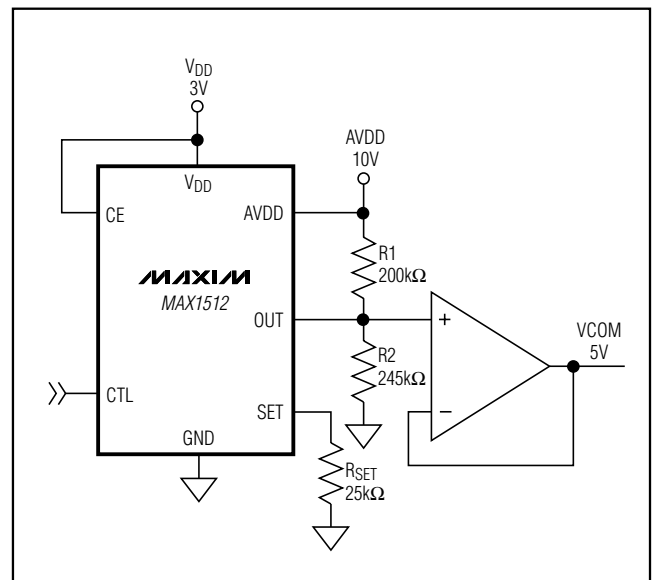
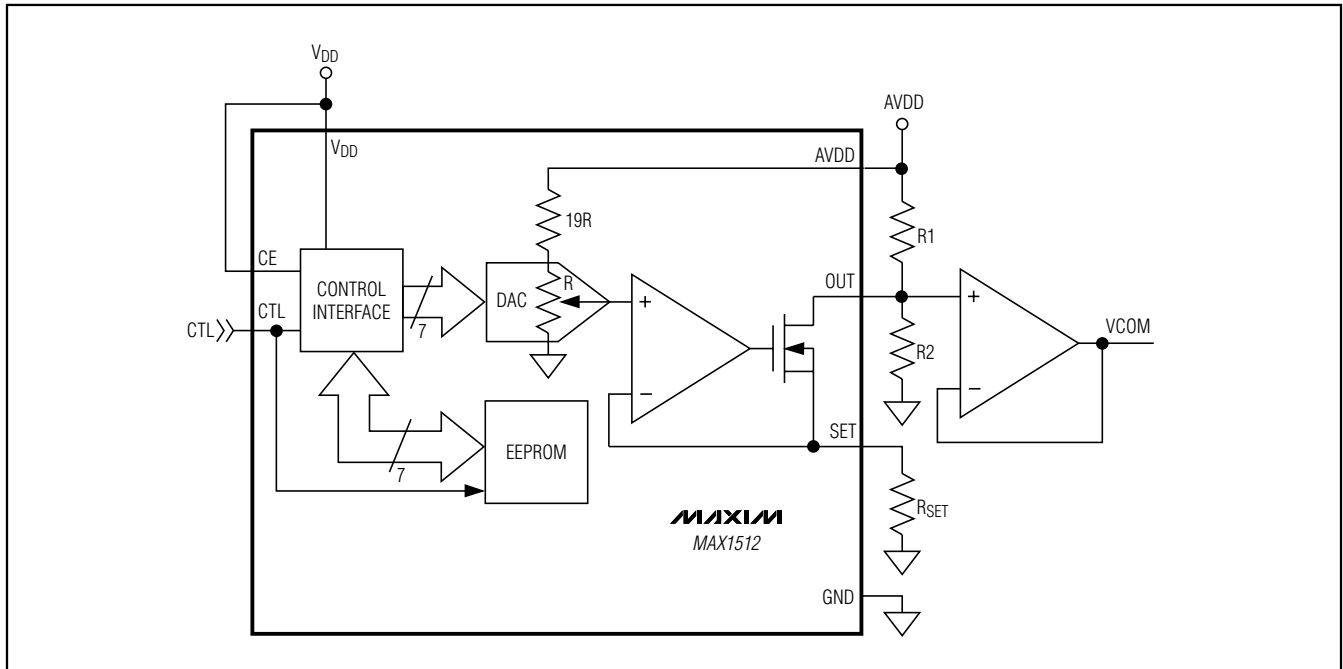

Figure 1. Standard Application Circuit
Figure 2. Simplified Functional Diagram
(Circuit of Figure 1, $V_{DD} = 3V$, $V_{AVDD} = 10V$, $V_{OUT} = 5V$, $R_{SET} = 30.1k\Omega$, $T_A = 0^{\circ}C$ to $+85^{\circ}C$, unless otherwise noted. Typical values are at $T_A = +25^{\circ}C$.) (Note 1)
(Circuit of Figure 1, $V_{DD} = 3V$, $V_{AVDD} = 10V$, $V_{OUT} = 5V$, $R_{SET} = 24.9k\Omega$, $T_A = +25^\circ C$, DAC half scale, unless otherwise noted.)
The MAX1512 is a solid-state alternative to mechanical potentiometers used for adjusting the LCD backplane voltage (VCOM) in TFT LCD displays. The MAX1512 attaches to an external resistive voltage-divider and sinks a programmable current (I_{OUT}), which sets the VCOM level (Figure 1). An internal 7-bit DAC controls the sink current and allows the user to increase or decrease the VCOM level (Figure 2). The DAC is ratio-metric relative to AVDD and is monotonic over all operating conditions. The user can store the DAC setting in an internal EEPROM. On power-up, the EEPROM presets the DAC to the last stored setting. The single-wire interface between the LCD panel and the programming circuit adjusts the DAC, programs the EEPROM, and provides programming power.
- Place the VCOM buffer and the R1/R2 voltage-divider close to the OUT pin (Figure 1). Keep the VCOM buffer and the R1/R2 voltage-divider close to each other.